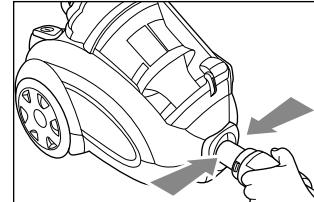

Fig. 2
- Insert the suction device coupling (M) into the air inlet opening (G) and press until it clicks into place. To remove it, it is necessary to press the two release buttons (P) at the same time and to pull it out (Fig. 2).